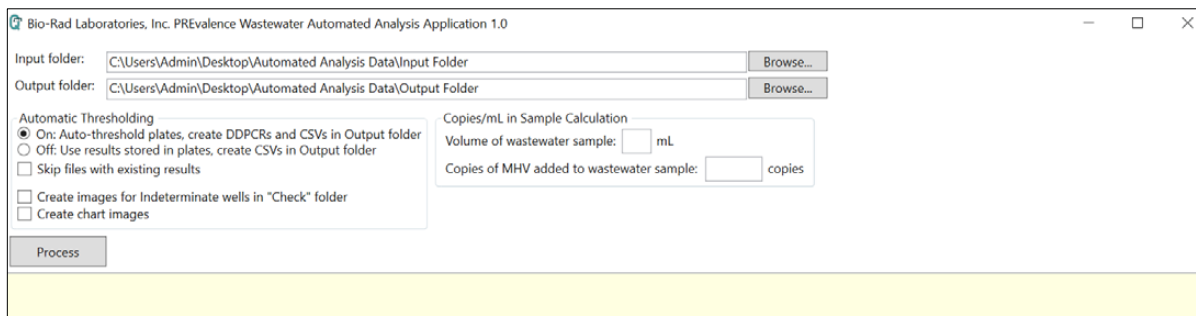

Fig. 7. Output folder specified with file path.
- Click the **Browse...** button directly to the right of the Output folder address bar, and locate the Output folder previously created. Select the folder and click **OK**. The Input and Output folders should now be specified (Figure 7).